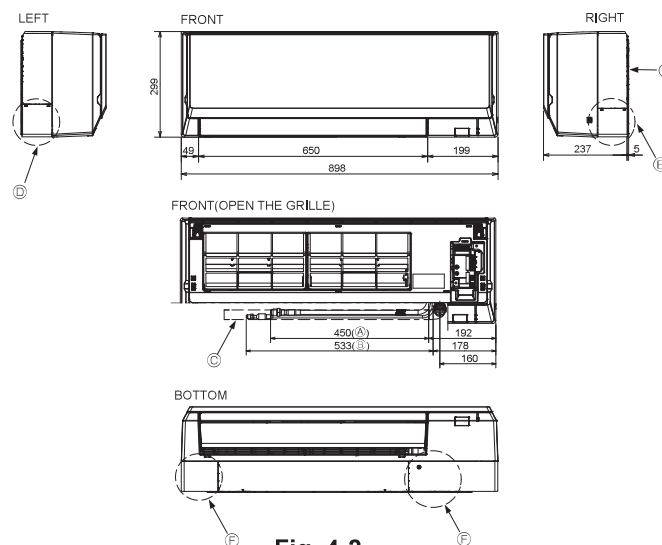

Fig. 4-2
4.2. Positioning refrigerant and drain piping (Fig. 4-2)
- Ⓖ Mount board ①